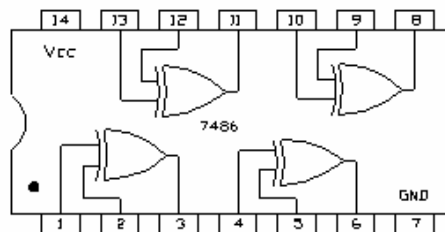

Figure 7: 7486 Pin configuration
- 7- Insert the 7486 IC into the bread-boarding socket, connect pin 14 to +5V and pin 7 to GND. Figure 7 shows the pin configuration for this IC.